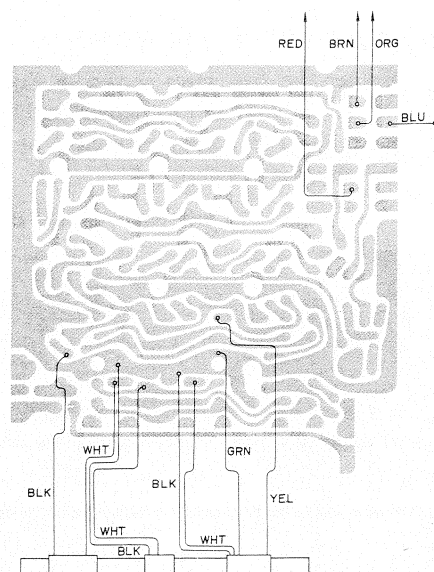

Fig. 2-17
6. Unsolder all the wires shown in Fig. 2-17.